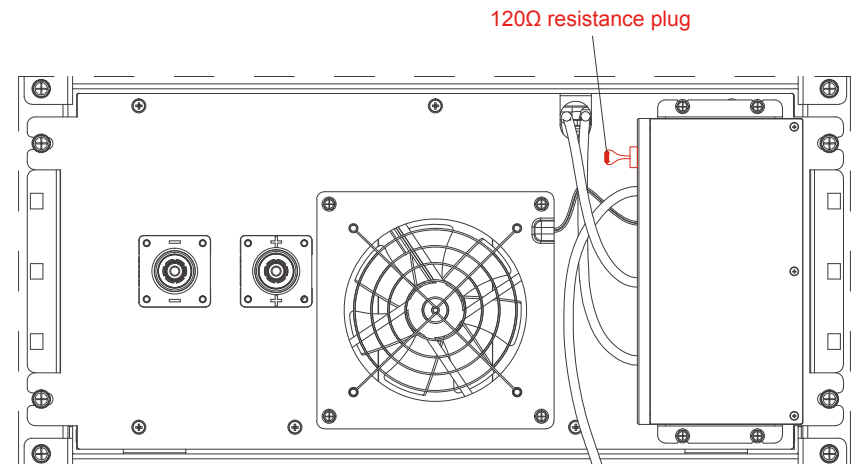

Figure 2.10
(6) The last battery box BMU output communication port has a 120Ω resistance plug (Figure 2.10).